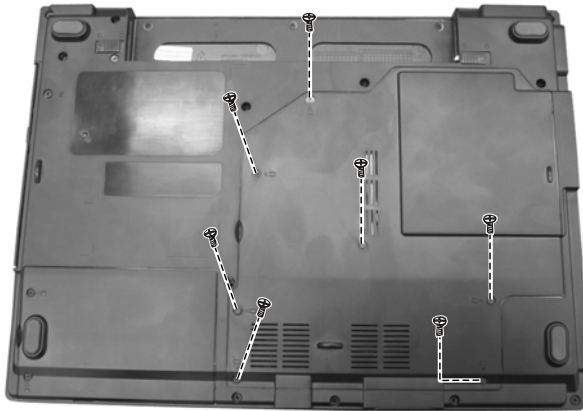

Figure 2-5 Remove the seven screws
2. Remove the seven screws fastening the CPU cover. (Figure 2-5)